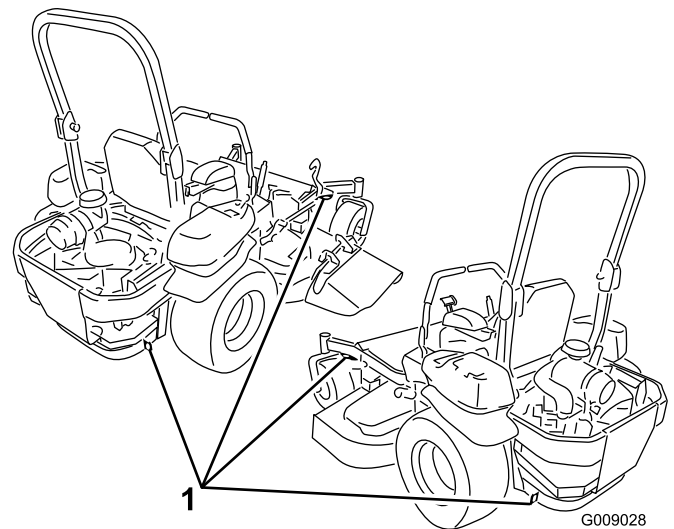

Figure 31
5. Use the metal tie-down loops on the machine to securely fasten the machine to the trailer or truck with straps, chains, cable, or ropes (Figure 31).